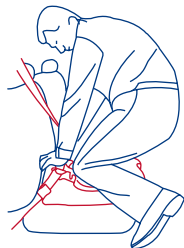

Fig. 40-3
- Proper installation of the Safety Seat or Base requires that the seat belt be very tight. To tighten the seat belt, push down hard with your knee or hand on the Safety Seat or Base while pulling and tightening the seat belt. **Check that there is no slack in the seat belt on either side of the Safety Seat or Base, or anywhere along the path of the belt, and that the seat belt is tight from end to end.** (Fig. 40-3 and 40-4)